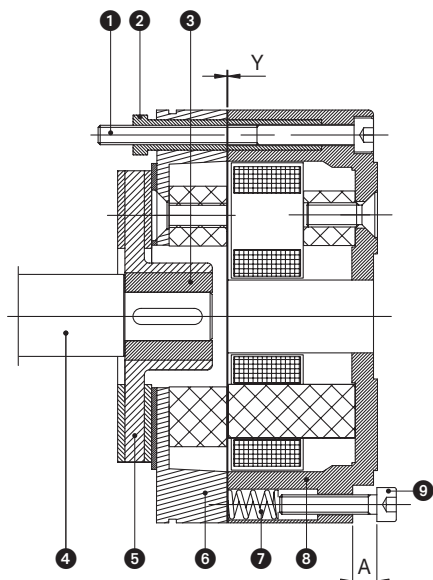

Fig. 2C
2.3 Construction method for the brake motor size 63 (Fig. 2C)